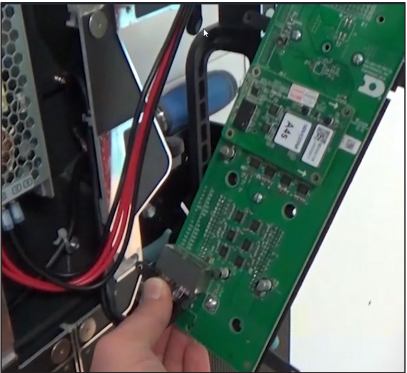

Figure 25: Disconnect Cat-5 Cables from RJ45 Jacks
3. Disconnect the Cat-5 cables from the RJ45 jacks on the hub board. Refer to **Figure 25**.